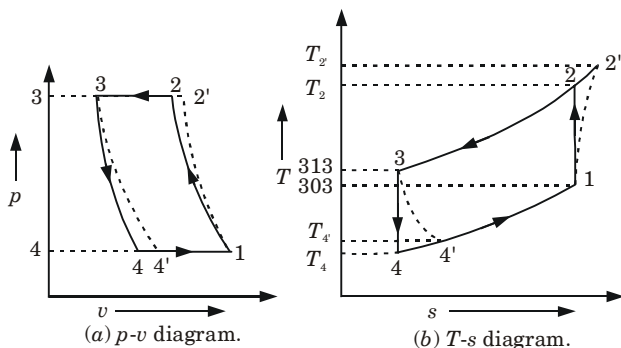

Fig. 5.8.1.
- The p - v and T - s diagrams for the cycle are shown in Fig. 5.8.1(a) and (b)